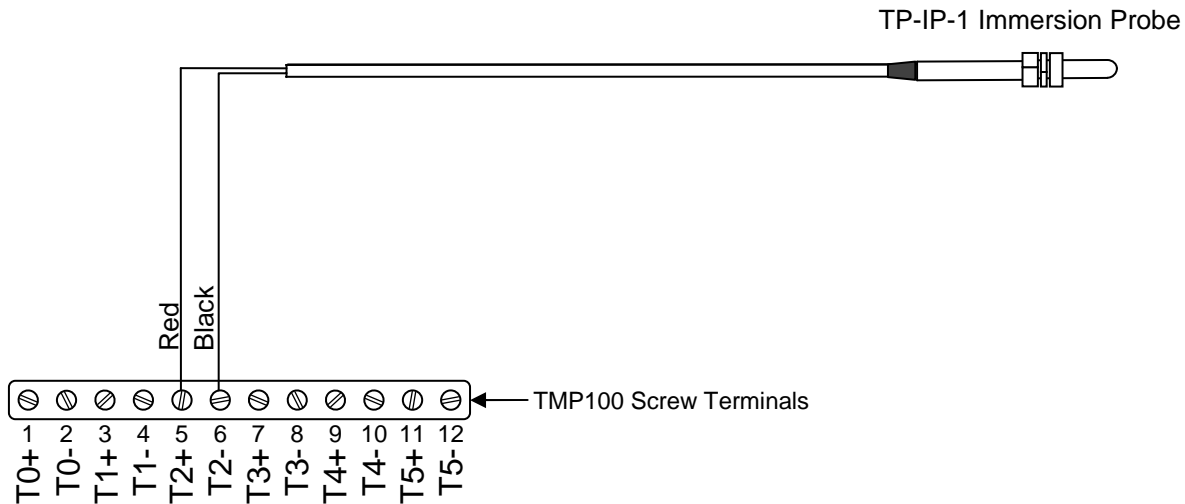

Figure 1 – Wiring Diagram
Please follow these instructions to connect the TP-IP-1 immersion temperature probe to the NMEA 2000® network via a Maretron TMP100 Temperature Module. The wiring diagram appears in Figure 1 below. The diagram shows a connection to channel #2, but connections to other channels are similar. Please note that the TP-IP-1 may be connected only to channels #2, #3, #4, and #5. It may not be connected to channels #0 and #1.
4. The TP-IP-1 cable contains one red and one black wire. Connect the black wire to the appropriate Tx-terminal on the TMP100 as shown in Figure 1 below.
5. Connect the red wire to the appropriate Tx+ terminal on the TMP100 as shown in Figure 1 below.